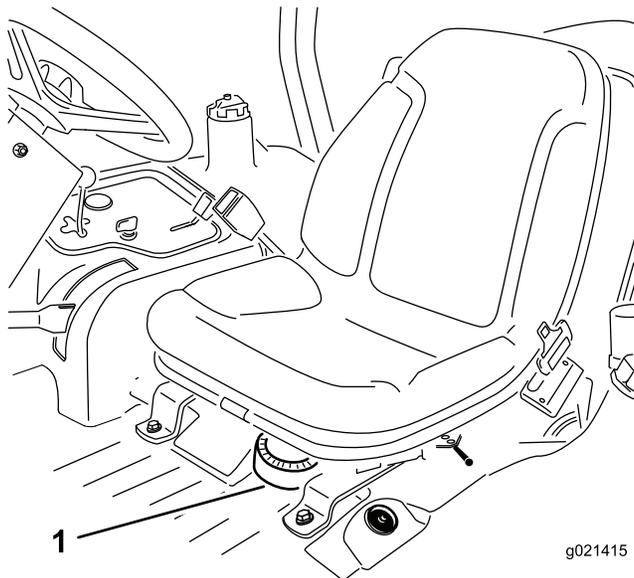

Figure 48
1. Remove the seat from the traction unit to access the fuel pump (Figure 48).